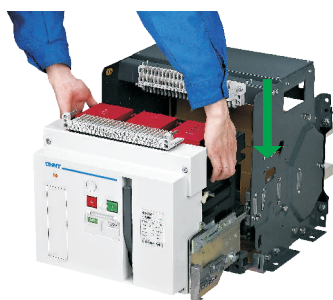

Figure 27 Switch disconnecter body on drawer seat rail
- The breaker body is placed on the drawer seat rail in the NH1-1000 model and on the rail as shown in the figure in the NH1-2000~4000 model. Note that the two protruding brackets of the switch disconnecter should be stuck in the groove of the rail, as shown in Figure 27.